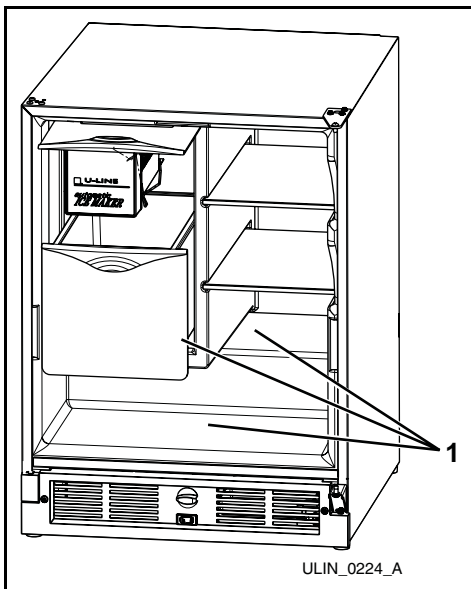

Figure 7
4. Place a towel or other absorbent material on bottom of ice bin and bottom of unit (**Figure 7, 1**).